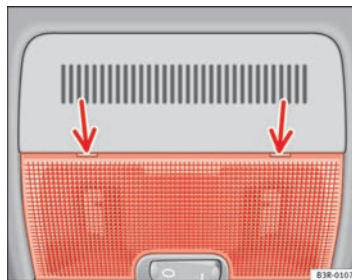

Fig. 83 Details of headliner: Points for applying screwdriver
- Carefully insert the flat end of a screwdriver (from the car's tool kit) at the rear of the glass cover on the interior light ⇒ page 114, fig. 83.